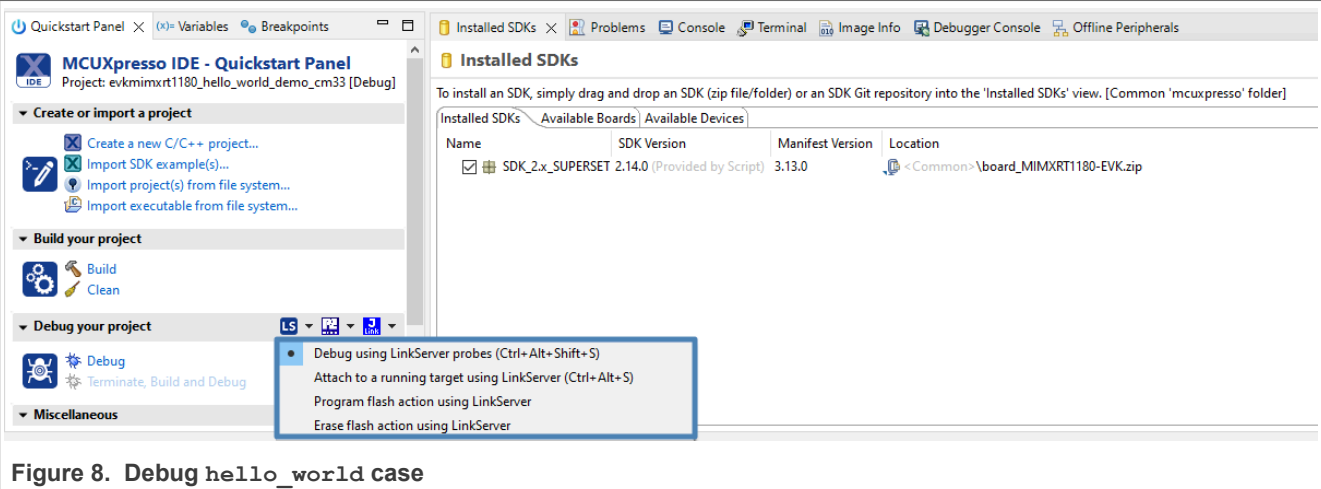

Figure 8. Debug hello\_world case
**Note:** Erase the flash memory before running the MCUX IDE projects for the first time. To do so, use the **Erase Flash action using LinkServer** in Figure 8 with `SW5[1..4]` on `0100`. In the worst case when MCUX IDE cannot erase the flash, use the secure provisioning tool. For more information, see Section 7.4 "Use Secure Provisioning Tool to erase flash".